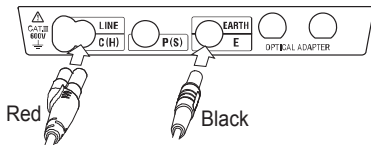

Fig. 7-1
(2) Connect the test leads as Fig. 7-1 shows.